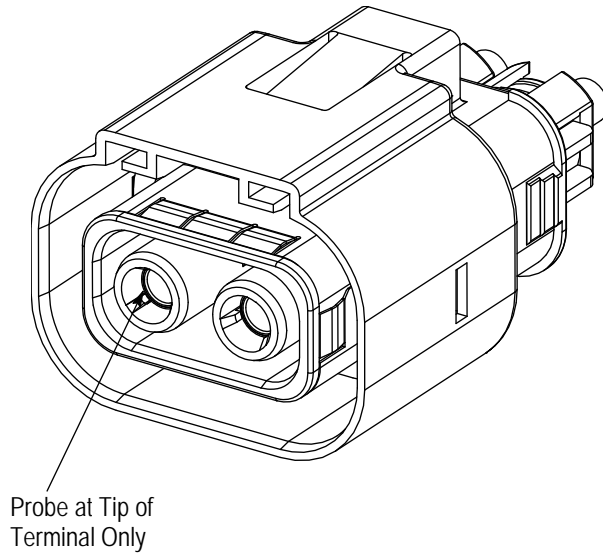

Figure 22
*Avoid probing the terminal in an area that could damage the plating inside the socket terminal. The best location for probing the socket terminal is at the front as shown in Figure 22.*